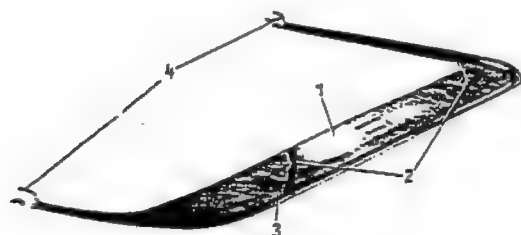

Fig. 69-5/1
1. Insert a wire hook in the air outlet on the rear pillar and bend up the fixing plate (2) toward the rear (Fig. 69-5/1).